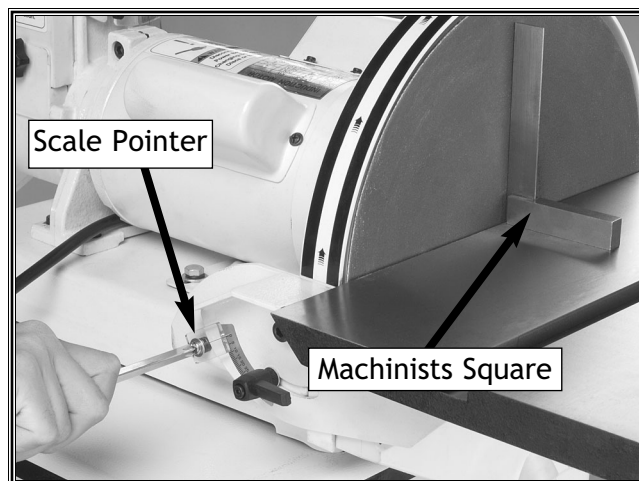

Figure 13. Setting the scale pointer.
3. Place a machinist square on the disc sanding table and against the sanding disc to check for squareness (shown in **Figure 13**).
5. Loosen the screw securing the pointer and adjust it so it indicates 90° (**Figure 13**).